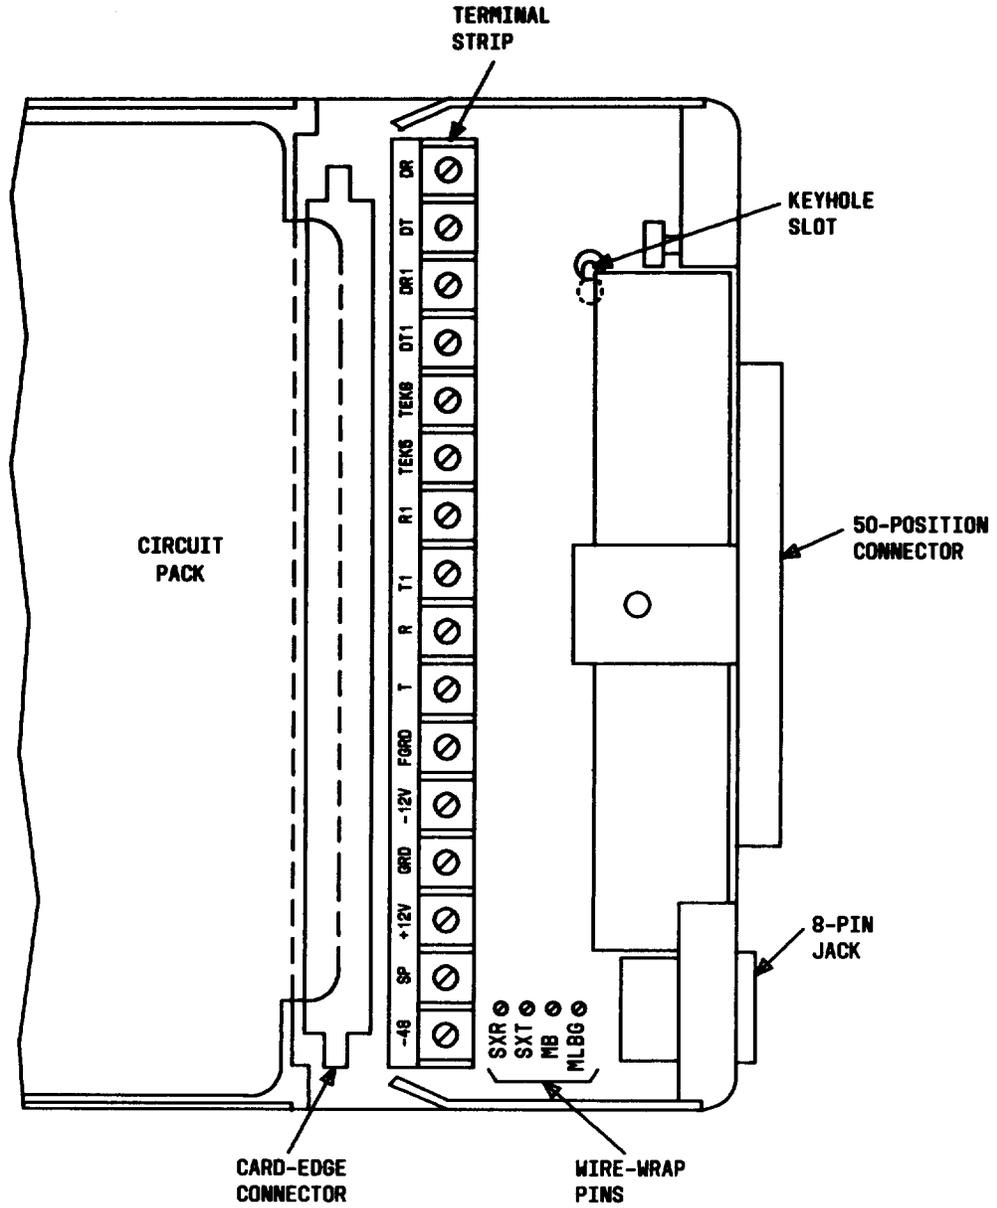

Fig. 2—146B Mounting Connectors
4.05 Connect the network interface leads to the unit using the appropriate terminals of the terminal strip and wire wrap pins shown in Fig. 2. Refer to Table B for interface lead functions, designations, and connector appearances.